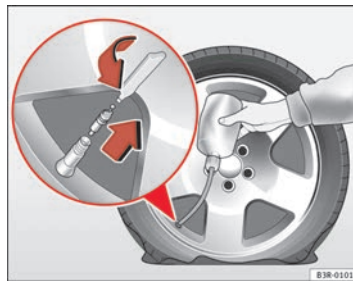

Fig. 201 Repairing a tyre
- Take the valve cap off the tyre valve and use the enclosed valve insert tool to unscrew the valve insert ⇒ page 260, fig. 201.